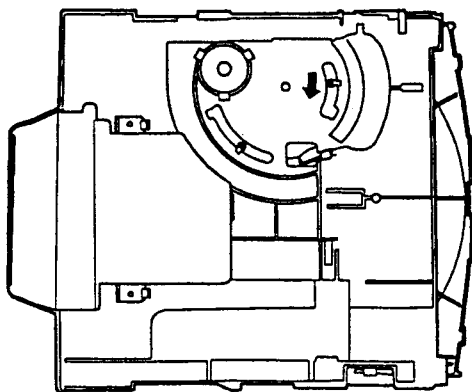

Fig. 3-7
- 1) If the TRAY BLOCK is in the "in" position, slide the protruding part of the GEAR HOLDER PART in the direction of the arrow and pull out the TRAY BLOCK slowly (refer to Fig. 3-7).